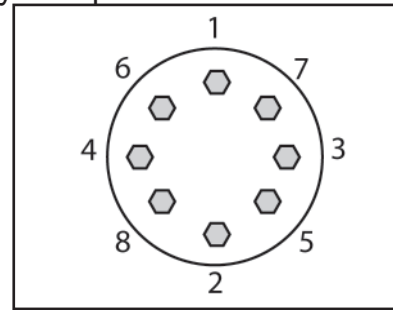

Figure 8
46. Reinstall the front roadside wheel if it was removed in Step 8. Refer to Figure 8 for proper lug nut tightening sequence. Tighten lug nuts until snug, then hand-torque to 140 ft-lbs., using the same tightening sequence.